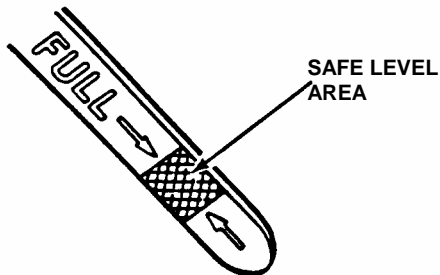

FIGURE 2.1
2.1.3. Check engine oil and add as needed to bring level up to the FULL mark. Refer to engine owner's manual for oil specifications. See Figure 2.1.